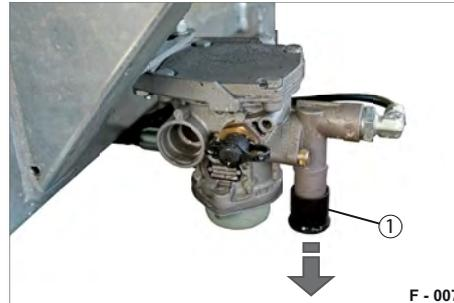

Fig. 10 Service brake in drive position
- ▶ Pull the release valve (Fig. 10/1).